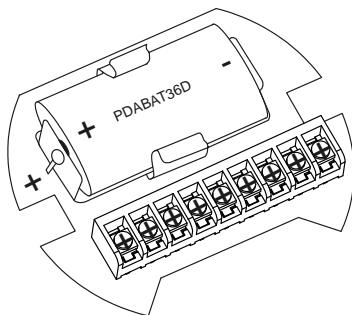

Figure 11. Battery Orientation
- Install new PDABAT36D into battery clip with polarity as shown in Figure 11.